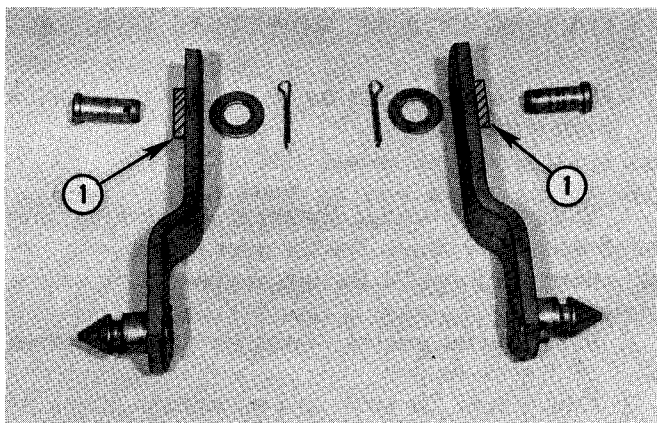

Fig. 38 — Hanger Straps
5. Assemble together hanger straps and attaching hardware as shown in Fig. 38. These two hanger straps attach to the *OUTSIDE* of the Tractor rockshaft lift arms and the lower attaching points must point outward as shown in Fig. 38.